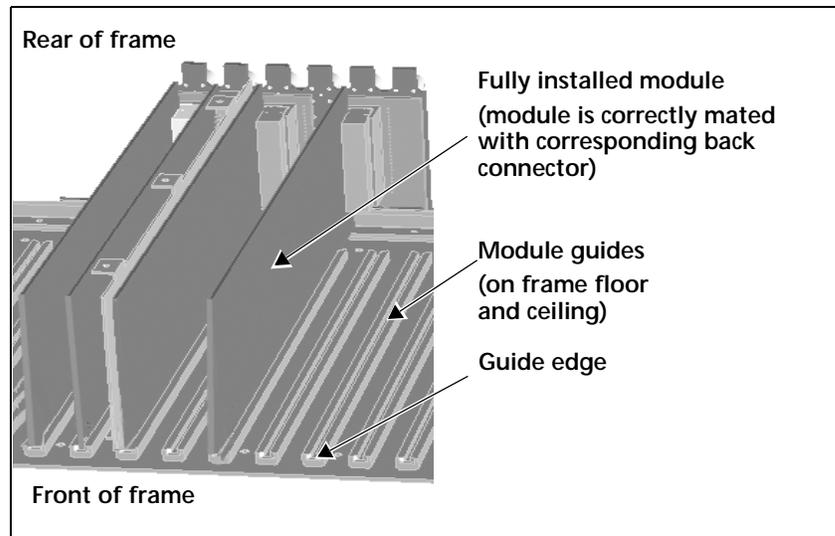

Figure 2-9 Frame Module Guides, Disassembled View
- 7 Slide the module into the guides on the frame floor. See Figure 2-9 on page 19.